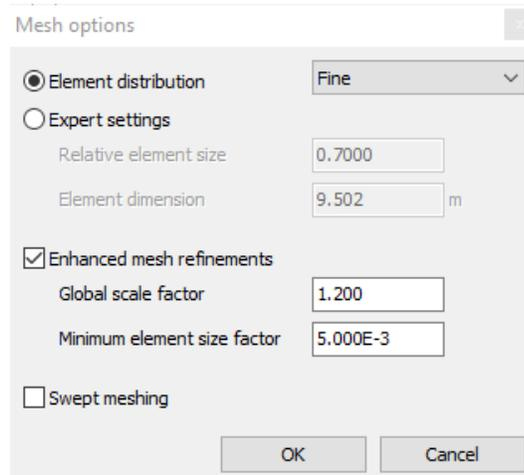

Figure 106: Modification of the Global coarseness
2. Select the **Fine** option from the **Element distribution** drop-down (See Figure 106 (on page 133)):